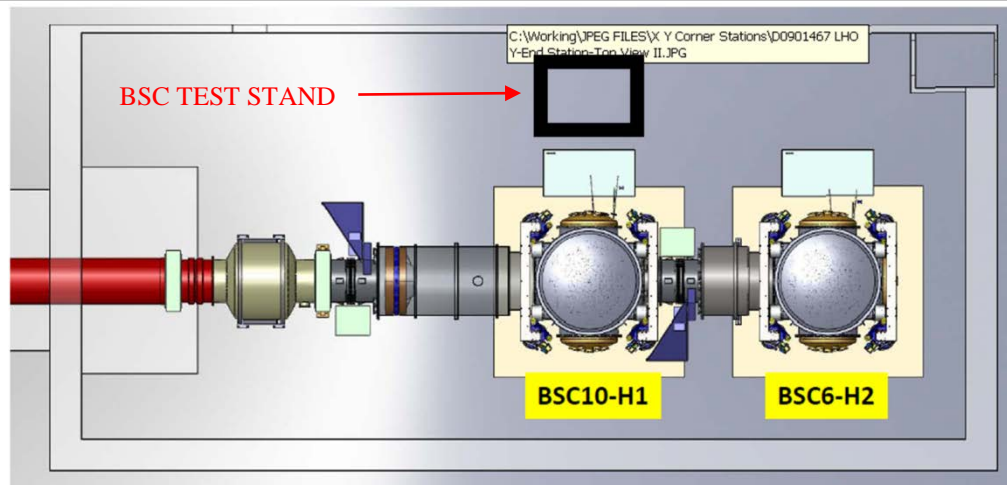

Figure 1 Test Stand location within the Y-End Station VEA
- The features of the BSC mechanical test stand which interface to the BSC-ISI platform shall be used to establish a centerline and two offset lines with alignment monuments/references in the floor, as depicted in the D1200076 (see also Figure 1).
- An appropriate clean room should be installed over the test stand. (see Figure 1)